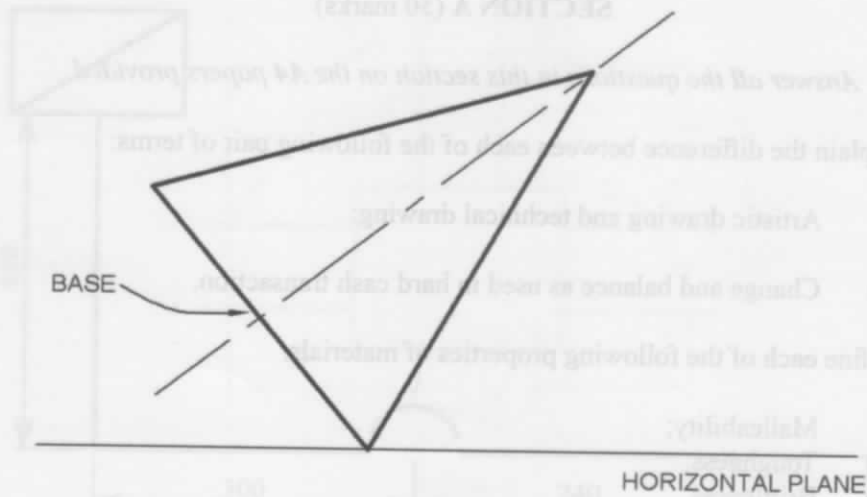

Figure 1
6. Figure 1 shows the front elevation of a cone tilted at an angle.